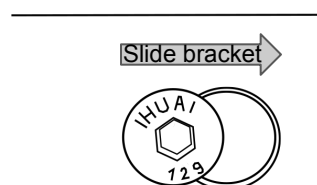

Fig. 19
2. Once the screws are loosened you can push the pass-through bracket to the right to clear the screws (see Fig 19).